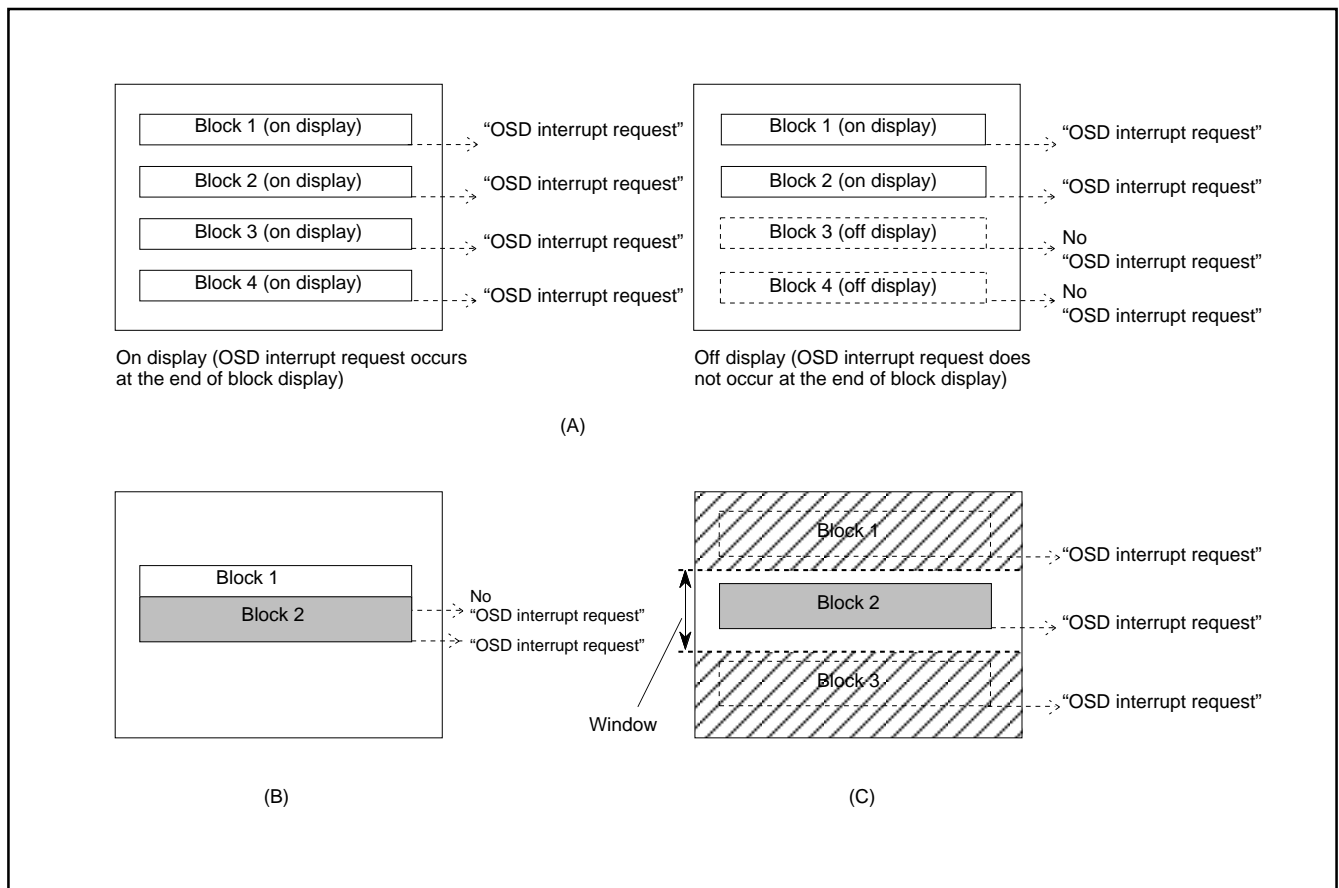

Fig. 8.11.36 Note on Occurrence of OSD Interrupt
- Notes 1:** An OSD interrupt does not occur at the end of display when the block is not displayed. In other words, if a block is set to off display by the display control bit of the block control register *i* (addresses 00D016 to 00DF16), an OSD interrupt request does not occur (refer to Figure 8.11.36 (A)).
- 2:** When another block display appears while one block is displayed, an OSD interrupt request occurs only once at the end of the another block display (refer to Figure 8.11.36 (B)).
- 3:** On the screen setting window, an OSD interrupt occurs even at the end of the CC mode block (off display) out of window (refer to Figure 8.11.36 (C)).